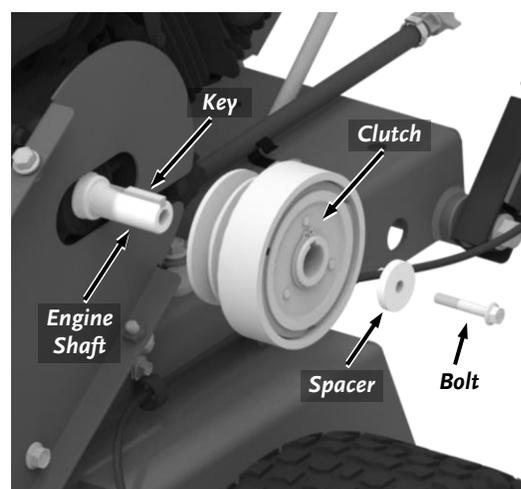

Figure 28
6. Place a 1/2" Wrench onto the Clutch Bolt (**Figure 28**).